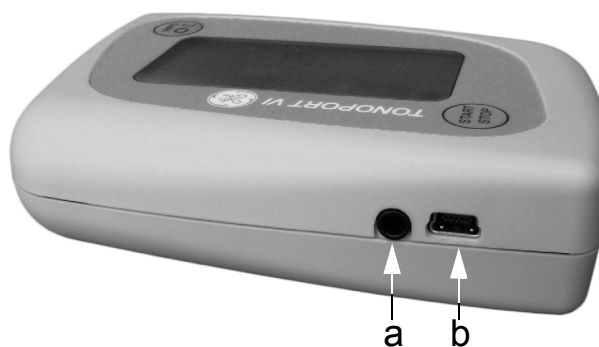

Fig. 5-1 Connections for PC cable
- via cable 2001589-040 if the USB port of TONOPORT VI is used (**b**, Fig. 5-1)
- via cable 2001589-011 if the serial port of TONOPORT VI is used (**a**, Fig. 5-1)
To be able to use the USB port of TONOPORT VI (b, Fig. 5-1), you need to install the USB driver and check the communication as described below.